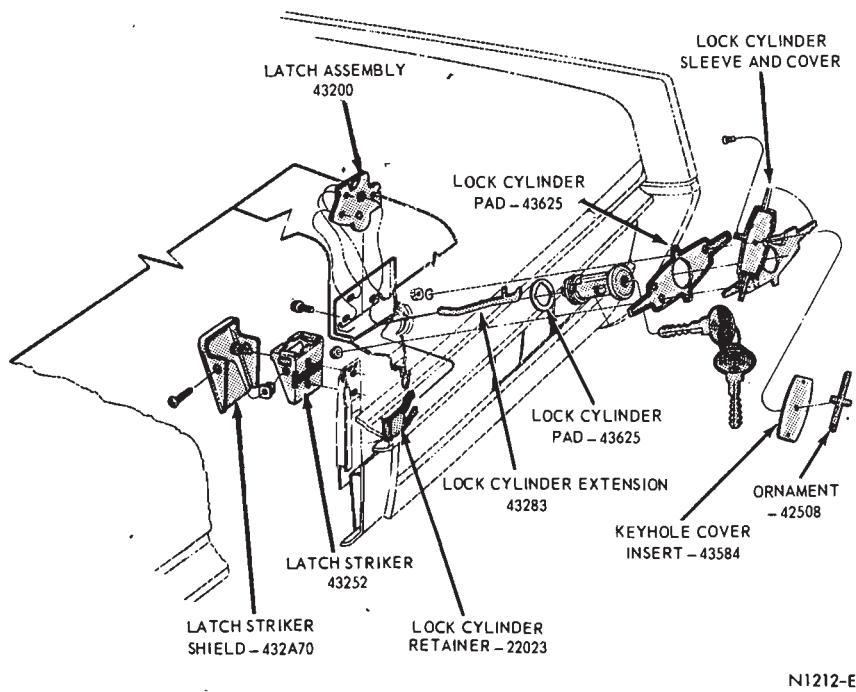

FIG. 16—Luggage Compartment Latch—Lincoln Continental
2. Remove two nuts retaining the lock cylinder sleeve and cover assembly (Fig. 16).